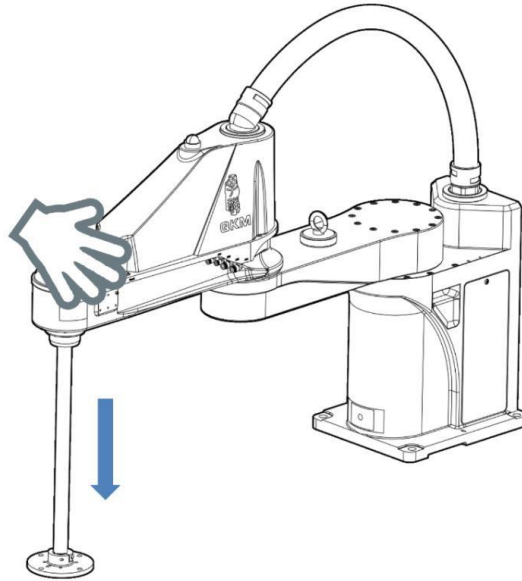

Figure 4-2 Push down spline screw shaft
Step 1 Confirm that the robot is powered on and in servo-off state. After confirmation, wear disposable gloves and hold the end of the screw, then press the brake button and do not release it until the spline screw shaft is pushed down to the lowest end, as shown in Figure 4-2.